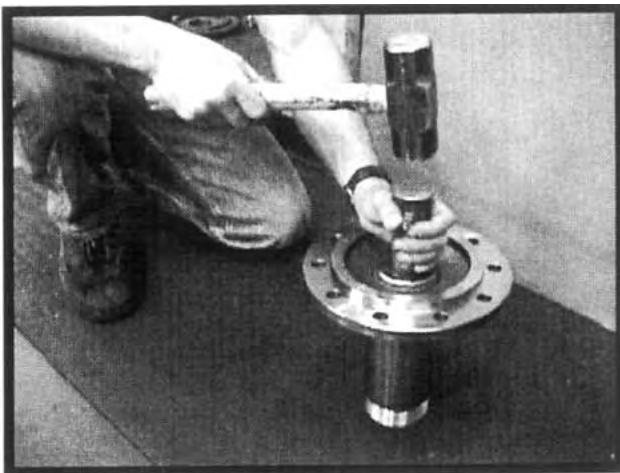

Figure 19
9. If the spindle sleeve bearing has been removed, press the replacement bearing into the spindle. The groove in the bearing should be located  $\pm 90^\circ$  from the large keyway on the outside surface of the spindle. **DO NOT PRESS THE TOP OF THE BEARING IN PAST THE SPINDLE CHAMFER!** Install the yoke shaft seal in the spindle. See Figure 19. Grease the bearing's inner surface, and pack the cavity between bearing and seal with grease. Slide the spindle over the yoke shaft and spindle yoke studs. The large keyway must be located at the 12 o'clock position.